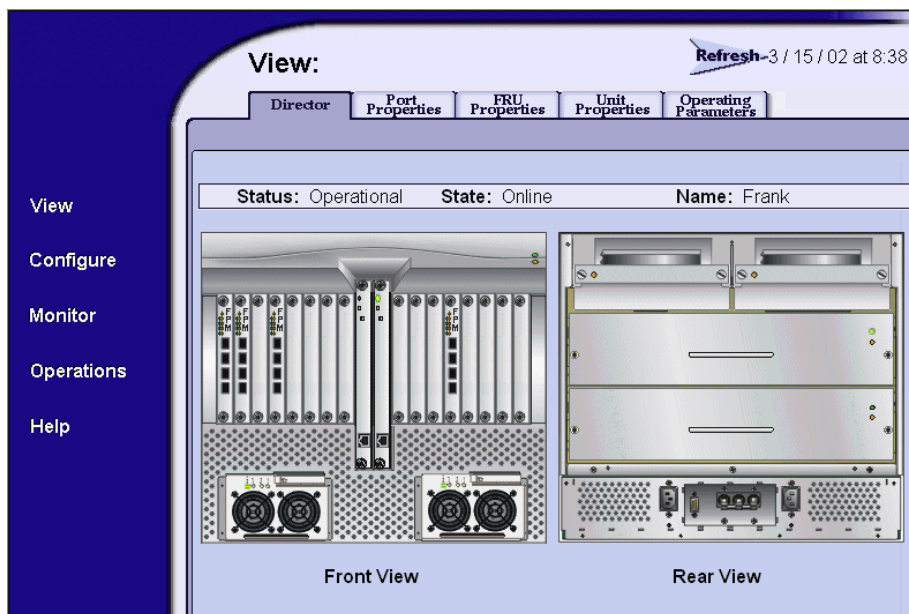

Figure 3-9 SANpilot Interface, View Panel
- d. Type the user name and password, and click **OK**. The SANpilot interface opens with the *View* panel displayed (Figure 3-9).